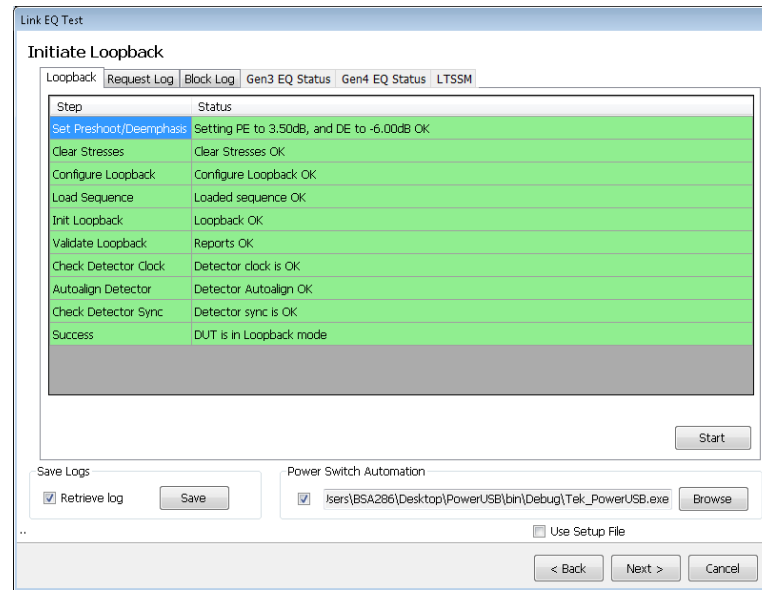

Figure-35: Loopback initiation
12. After clicking on 'Next', the 'Initiate Loopback' window is displayed as shown in Figure-35 where upon clicking on 'Start' button, a preliminary test is carried out to ensure that the DUT gets into loopback before the tests (The DUT needs to be powered-on for the loopback test and then powered-off)
13. After clicking on 'Next', the 'Initiate Loopback' window is displayed as shown in Figure-35 where upon clicking on 'Start' button, a preliminary test to carried out to ensure that the DUT gets into loopback before the tests (The DUT needs to be powered-on for the loopback test and then powered-off)